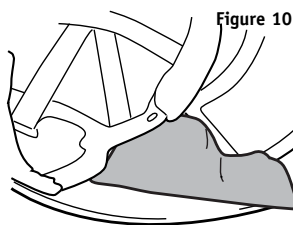

Figure 10
1. Remove plastic from the Velcro attached to the cheek pad. Apply to the helmet. Press firmly, holding pad in place to ensure a secure placement (Figure 10).